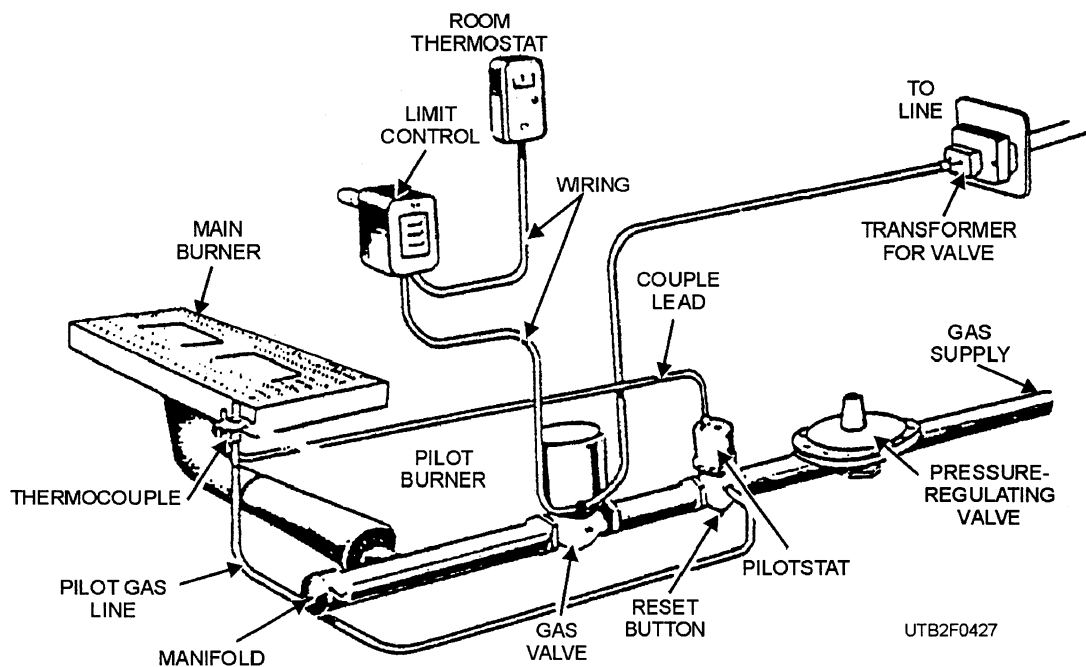

Figure 4-27.—An automatic gas burner control system.
The gas burner controls include the following units—manual gas valve, gas pressure regulator, solenoid gas valve, diaphragm valve, pilot light, thermocouple, thermocouple control relay limit control, heat exchanger, draft diverter, and humidifier (fig. 4-27). A manual gas cock or valve must be installed ahead of all the controls.
**PILOT LIGHT.**—The gas pilot light in a gas-heating unit is a small flame that burns continuously and lights the main burner during normal operation of the heating unit. It is located near the main burner, as shown in figure 4-27.
The thermocouple is located next to the pilot light of the main gas burner, as shown in figure 4-27. It generates the electric current (usually 50,000 microvolts) which holds open a main gas valve, a relay, or any other safety devices, permitting gas to flow to the main burner. Soon after the pilot light is extinguished, current ceases to flow to these safety devices, thus causing them to shut off the gas to the heating unit. These safety devices will not operate again until the pilot light is lighted and current is again generated by the thermocouple.